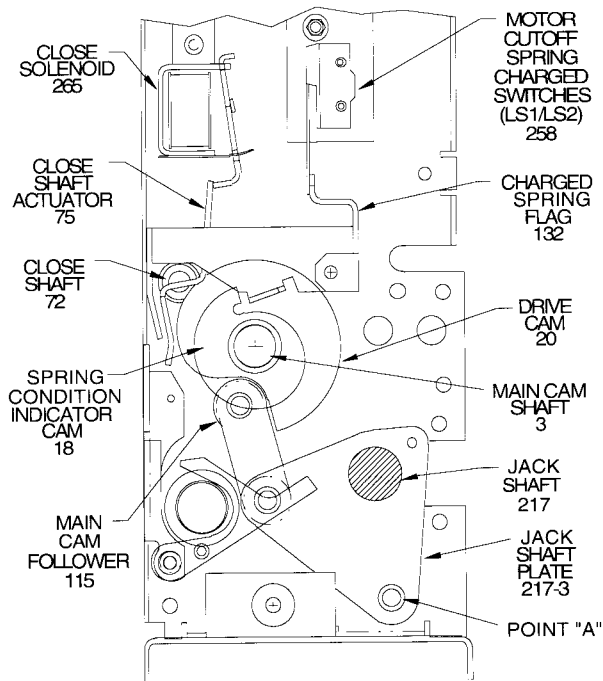

Figure 17a: Closing Mode
At the beginning of the charging cycle, ratchet pin (16) is at the 6 o'clock position. The ratchet pin is connected to the ratchet wheel. Upon being advanced by ratchet action to the 12 o'clock position, this pin engages the drive arms (8) which are keyed to the main cam shaft. Consequently, counterclockwise rotation of the ratchet wheel causes the ratchet pin to drive the main cam shaft counterclockwise. When the ratchet pin reaches the 6 o'clock position, the closing springs are fully charged. Driving pawl (24-1) is disengaged, the spring condition indicator cam (18) has rotated allowing the spring charged flag (132) to drop into the lower (charged) position, which also operates the motor cutoff switch (LS1) and spring charged switch (LS2) (258) (see **Figures 17a and 27**). The closing springs are restrained fully charged by close hatchet (22) against close shaft (72).
Closing Mode (Figure 17a) - Energizing the close solenoid (265) pulls the solenoid armature against the closing shaft actuator (75) and causes the close shaft (72) to rotate approximately 15°. If the closing springs are charged, the close hatchet (22) will be released by this rotation allowing the main cam shaft (3) to be driven by the closing springs. Depressing the manual close button on the operator panel causes the rotation of the close shaft (72) by the lower end of the close shaft actuator (75). Rotation of the main cam shaft (3) in a manual closing operation is identical to that of an electrical closing operation. As the main cam shaft (3) rotates, the cam follower (115) is driven by drive cam (20), and the main link (120) is forced outwards, and rotation of the jack shaft assembly (217) occurs. There are three drive links attached to Point "A" of each of the three jack shaft drive plates. Each drive link is connected to the movable contact of one vacuum interrupter. Closing rotation (counterclockwise) of the jack shaft assembly closes the contacts of the three vacuum interrupters. During closing operation, rotation of jack shaft assembly (217) forces the opening (i.e., tripping) spring into its charged position.